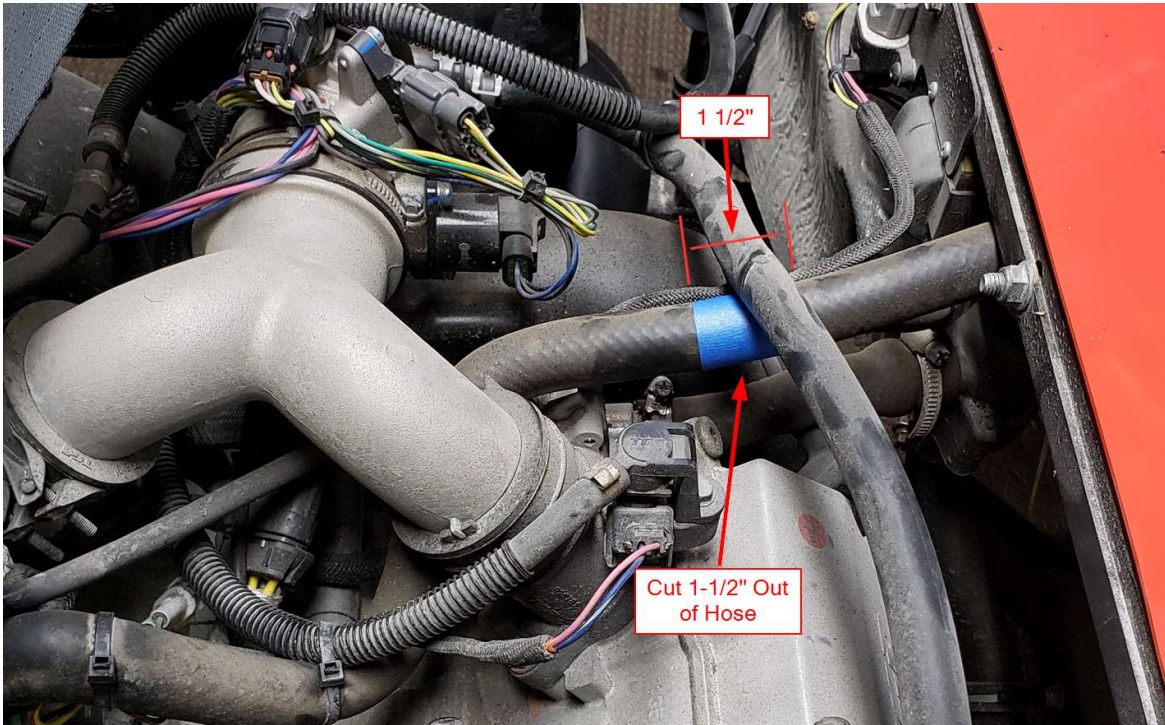

Figure 19
- g. In the engine bay locate the hose shown in Figure 19. Mark a 1-1/2" section of hose as shown and remove it using a razor blade.